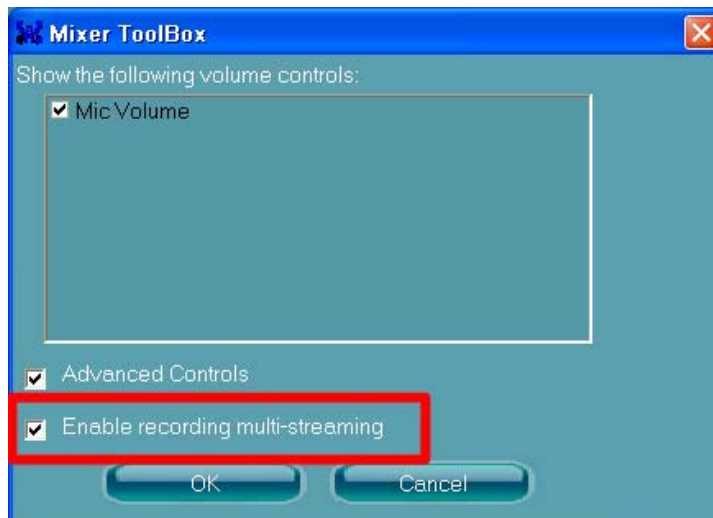

Figure C-4: Mixer ToolBox Screen
Step 6: The following screen appears (**Figure C-4**). Check the **Enable recording multi-streaming** box, and then click **OK**.